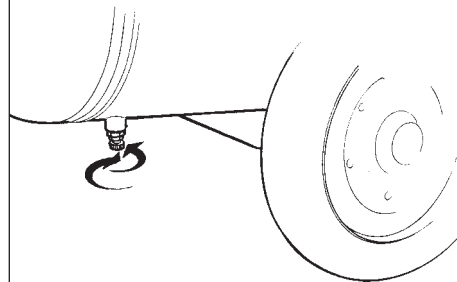

fig. 2
- check that the condensation outflow tap under the tank is closed (*fig. 2*);
- Let the tank circuit pressure out by opening the condensation outflow tap before dismantling the pneumatic circuit (fig. 2). Unscrew carefully, so as to let out the air slowly. Watch the manometer to make sure that there is no pressure in the air circuit.
Let the condensation flow out after each working day through the tap under the tank (*fig. 2*). It is advisable to supply the tap with an automatic drainpipe, to guarantee the full outflow.